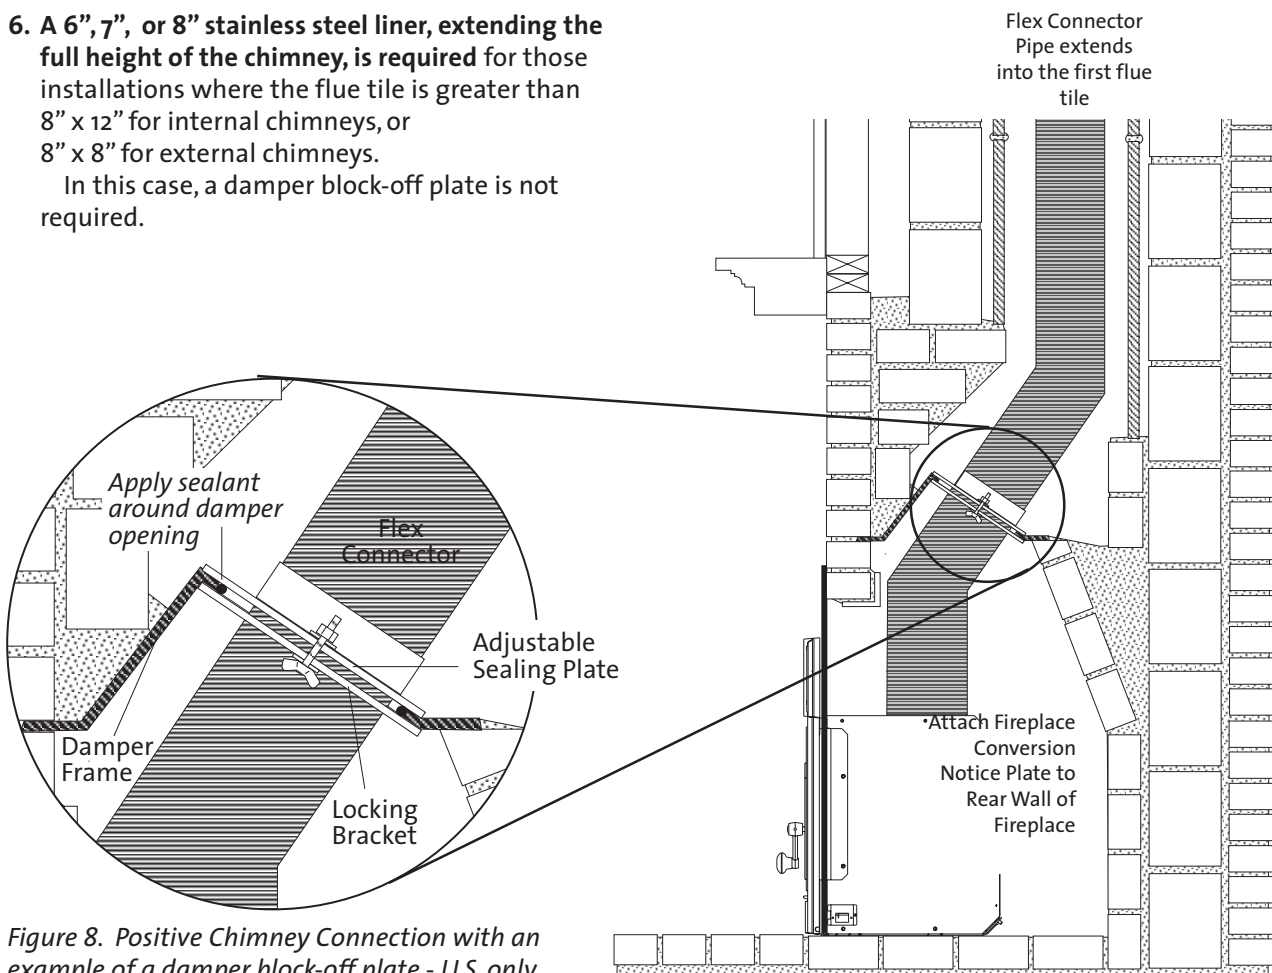

Figure 8. Positive Chimney Connection with an example of a damper block-off plate - U.S. only.
3. **A sealed block-off plate must be installed at the damper area of the existing fireplace**, unless the liner is connected to the top of the chimney. See fig. 8.